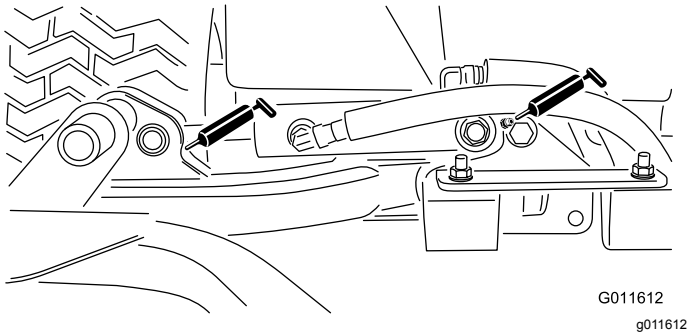

Figure 48
- Cutting unit lift arm cylinders (2 each) (Figure 48)
- Lift arm pivots (1 each) (Figure 48)